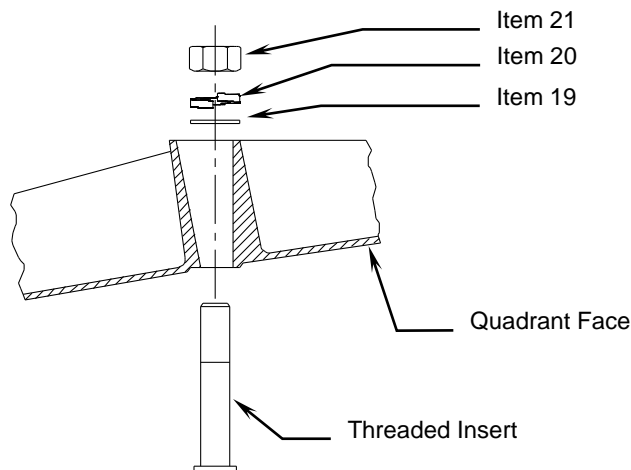

Figure 8: Threaded Insert Assembly Detail
1. Before beginning the reflector support assembly, as shown in Figure 8, Threaded Insert Assembly Detail, install the 12 threaded inserts (items 1 – 6) thru the face of each reflector quadrant.
2. Secure inserts with 7/8" hardware (items 19, 20, 21). Snug but do not tighten the hardware.